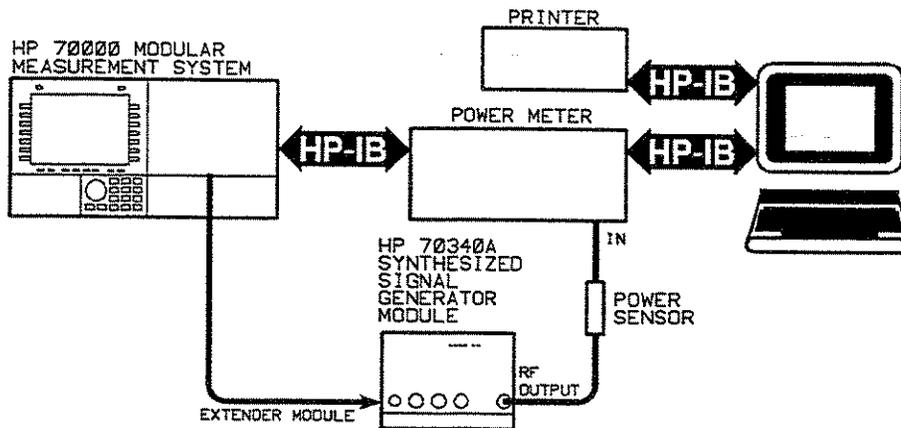

Figure 3-4. Frequency Calibration Equipment Setup
2. Set up the equipment as shown in Figure 3-4.